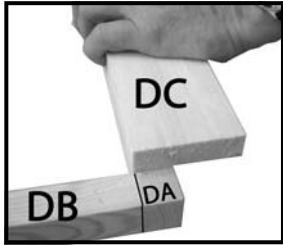

Fig B5
10. Place one of the DC parts on top of the DA parts level with the inside of the frame (fig B5)